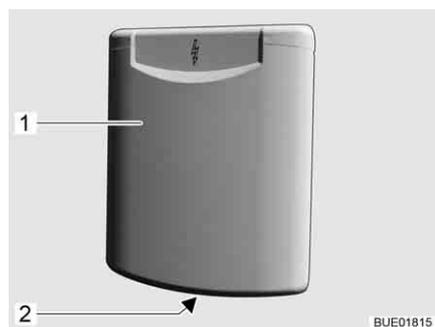

Fig. 76 Flap for the 230 V connection
- Reach into the recessed grip (Fig. 76,2) on the external flap (Fig. 76,1) and swing the external flap upward.